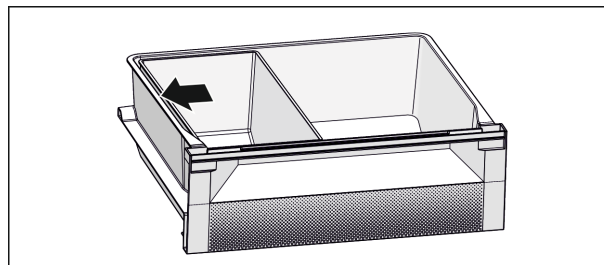

Fig. 7
- For an optimum cooling function: Position Fish & Seafood tray according to illustration (see Fig. 7).